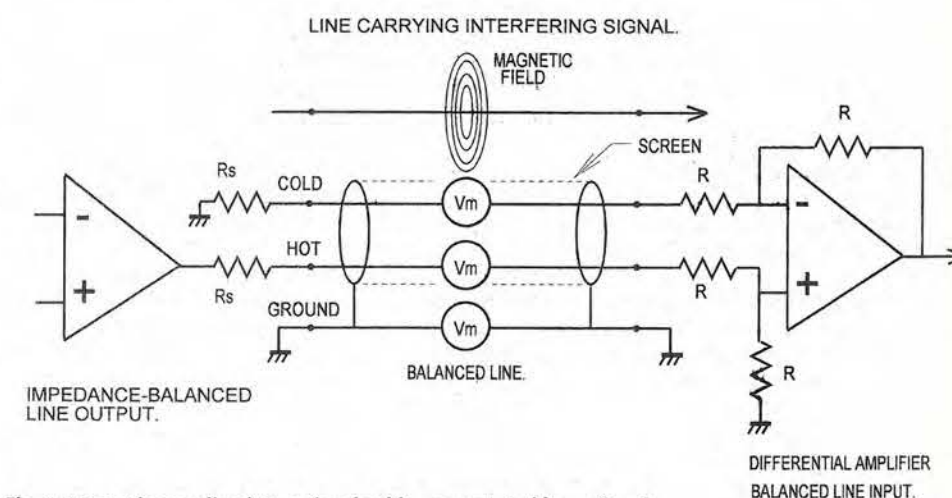

Fig. 2. Magnetic coupling into a signal cable, represented by notional voltage-sources  $V_m$ .
**Magnetic coupling.** An emf,  $V_m$ , is induced in both signal conductors and the screen, Fig 2. According to some writers, the screen current must be allowed to flow freely, or its magnetic field will not cancel out the field acting on the signal conductors. Therefore the screen should be grounded at both ends, to form a circuit.2